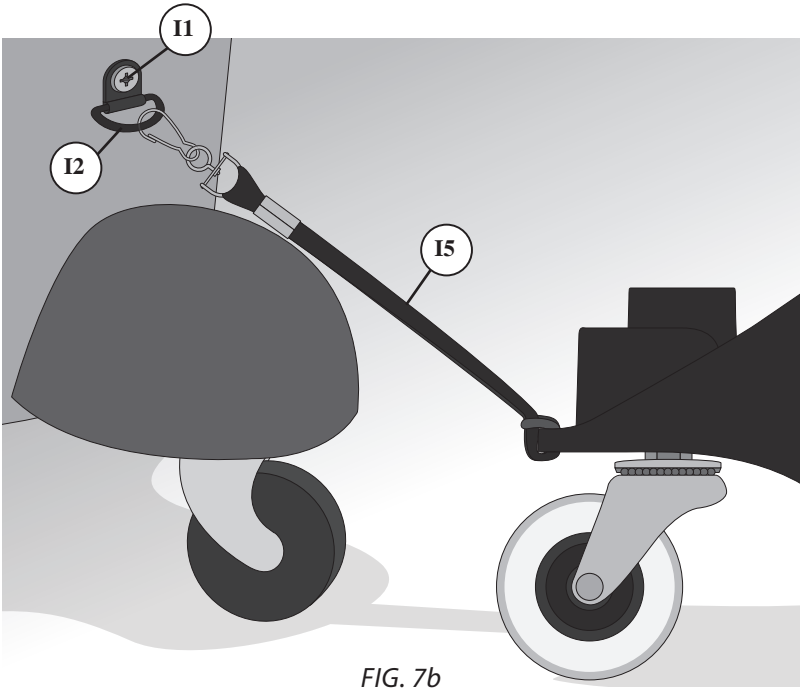

FIG. 7b
- b. Attach the D ring (I2) to the vacuum with the Sheet Metal Screw. (I1) Then loop the Lanyard (I5) around the slot on the Caster Mount and through itself. Finally, clip the Lanyard to the D ring [FIG 7b] [FIG 7c].